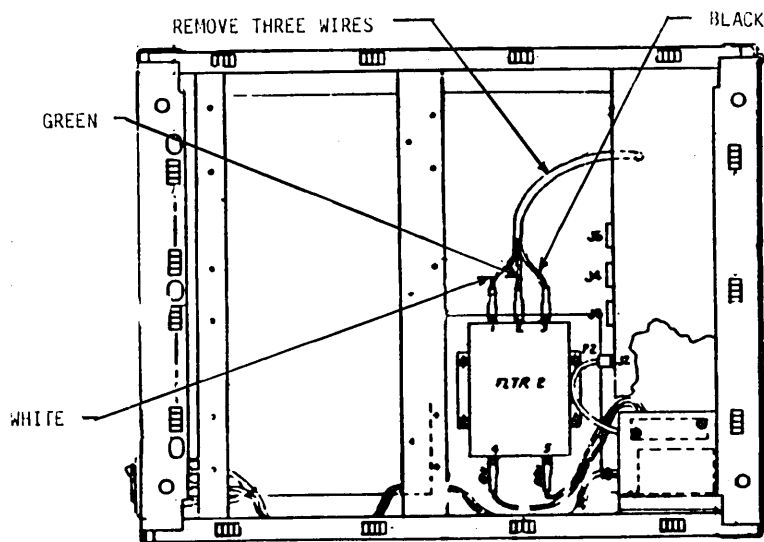

Figure 4-8. Filter 2 Terminal Wire Locations
7. Slide the Winchester drive forward until the three wires attached to filter 2 are accessible. (Refer to Figure 4-8.)